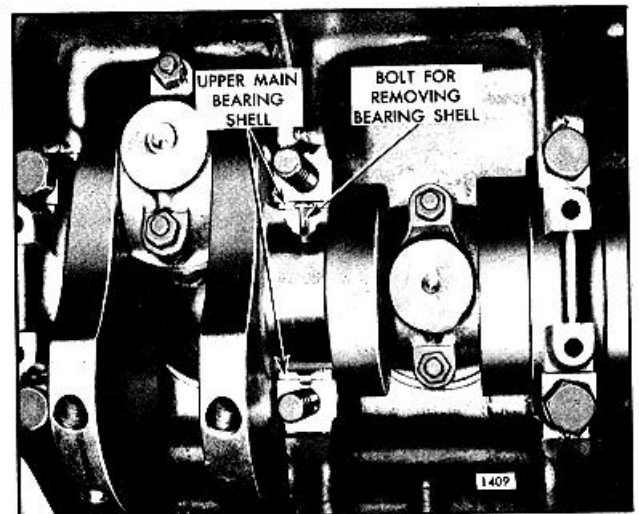

Fig. 3. Removing Upper Main Bearing Shell (Except Rear Main)
- a. To remove all except the rear main bearing shell, insert a 1/4 " x 1 " bolt with a 1/2 " diameter and 1/16" thick head (made from a standard bolt) into the crankshaft journal oil hole. Then revolve the shaft to the right (clockwise) and roll the bearing shell out of position as shown in Fig. 3. The head of the bolt must not extend beyond the outside diameter of the bearing shell.